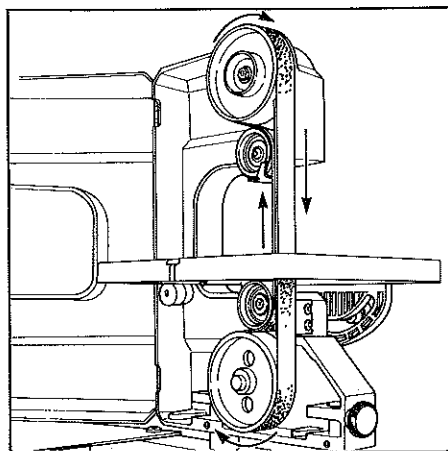

Figure 24. Install the belt onto the wheels.
6. **Install the belt.** Place the belt around the bottom of the drive wheel (25) and feed the back of the belt under the lower idler wheel (17). Wrap the belt over the top of the tracking wheel (6). While pushing down on the tracking wheel (6), wrap the belt over the upper idler wheel. (See Figure 24.)
7. **Install the table leveling clamp (42 and 43).** Close the cover (1), and tighten the lock knob. Then gently press the cover in to engage the "S" clip (53).